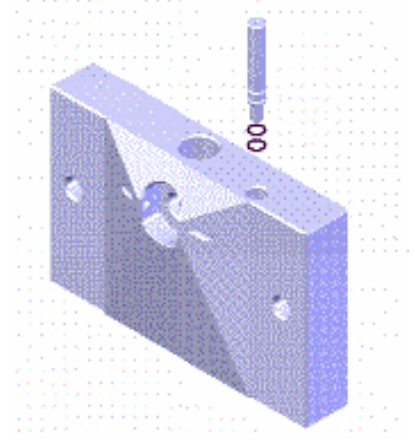

Fig. 4
7. Lift up on the Pressure Relief Plug (Fig. 4) to vent air from the freezing cylinder. When solution discharges from the bottom of the Pressure Relief Plug, close by pushing downward on the plug.